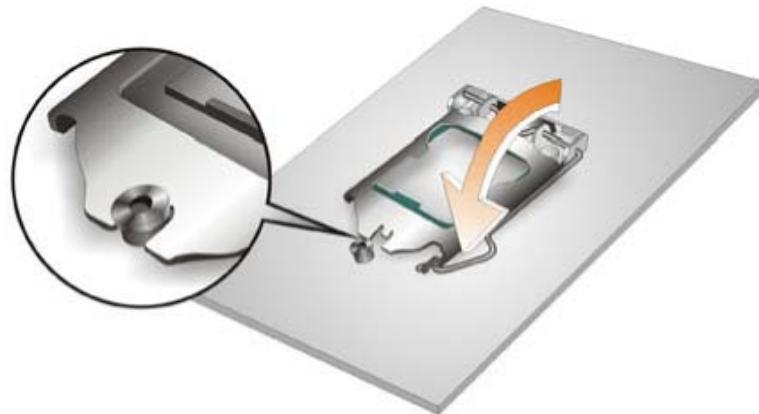

Figure 4-4: Close the Socket LGA1150
- Step 8:** **Close the CPU socket.** Close the load plate and pull the load back a little to have the load plate be able to secure to the knob. Engage the load lever by pushing it back to its original position. See **Figure 4-4.** There will be some resistance, but will not require extreme pressure.